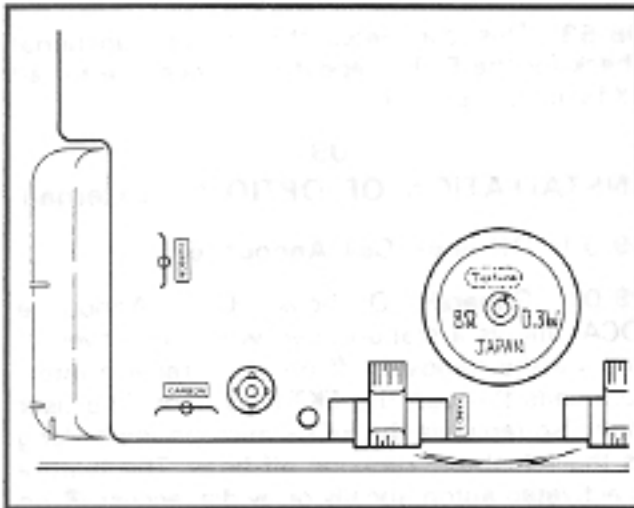

FIGURE 24—CARBON HANDSET MODIFICATION
- 2) On the exposed PCB, cut jumpers marked "CARBON" (see Figure 24).
Figure 24 shows the locations of the carbon resistors for both handfree answer-back (HFU) and speakerphone (SPF) EKTs.